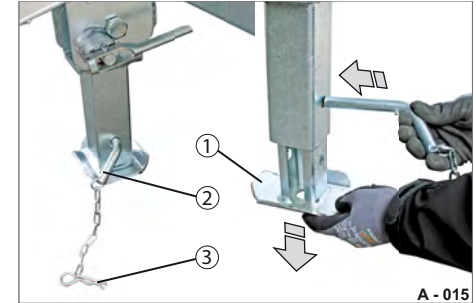

Fig. 5 Adjusting levelling foot
- ▶ Remove the spring pin (Fig. 5/3) from the socket pin (Fig. 5/2).
- ▶ Place the levelling foot (Fig. 5/1) on firm ground and adjust the levelling foot downwards until it can still be located in the further hole.
- ▶ Tilt the levelling foot (Fig. 5/1) up and secure it with the socket pin (Fig. 5/2) and spring pin (Fig. 5/3).